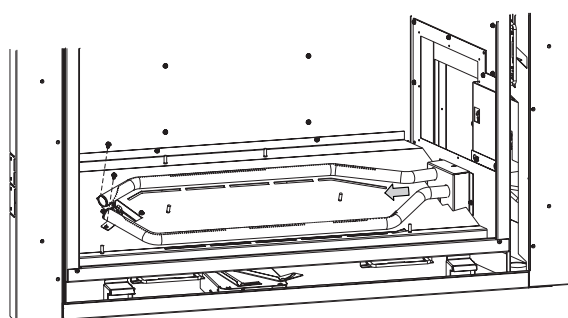

Figure 7
2. Remove front and rear burner. **See Figure 7.**